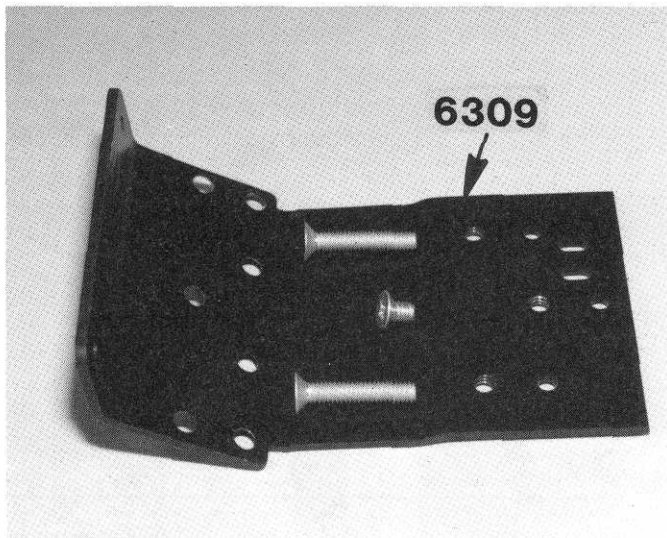

Fig. 1
□ **Fig. 1** We'll start with fig. 1. Only take the parts out of the bag that we tell you, and no others. Look for Bag #6-4 and take the #6309 black anodized nose piece out of the bag, as shown in the photo, and the shortest Phillips flat head screw, as shown. DO NOT take anything else out of the bag. Now take the 2 Phillips screws out of Bag #6-2, but nothing else.